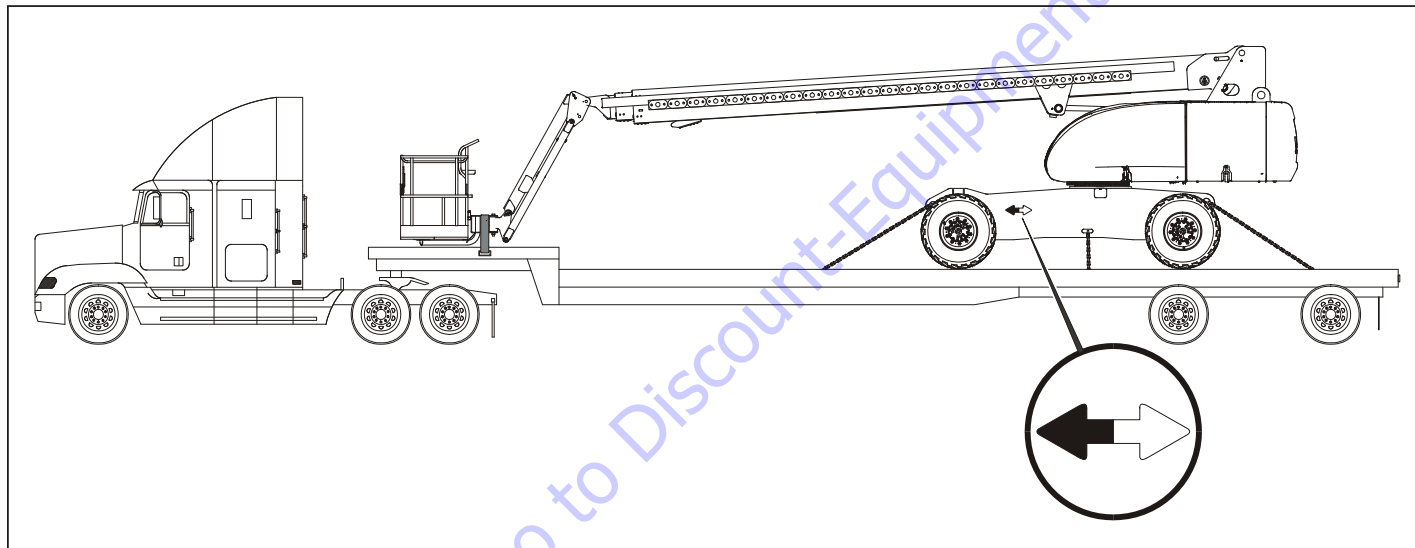

Figure 4-7. Typical 800S/810SJ/860SJ Transport
- c. Drive it onto the trailer with the boom and platform positioned towards the truck. Refer to Figure 4-7., Typical 800S/810SJ/860SJ Transport.